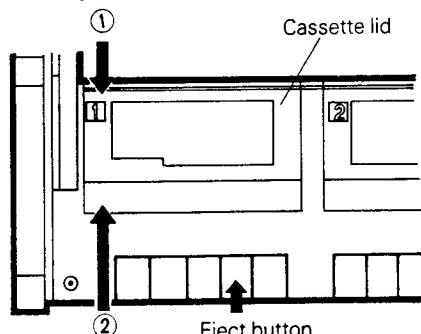

Fig. 1
- (1) Press the EJECT button to open the cassette lid and disengage the one side of the cassette lid by pressing the part indicated with arrow ① as shown in Fig. 1.
- Keeping the cassette lid opened, engage the part of the cassette lid indicated with arrow ① as shown in Fig. 1.